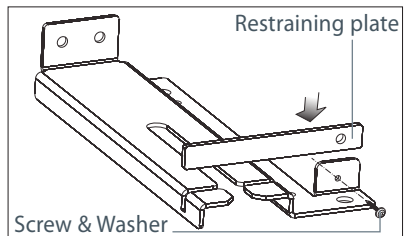

Fig. 6 Fixing the restraining plate
- 5 Fix the restraining plate by sliding it into place and securing it with the fixing screw and washer supplied. See Fig. 6.